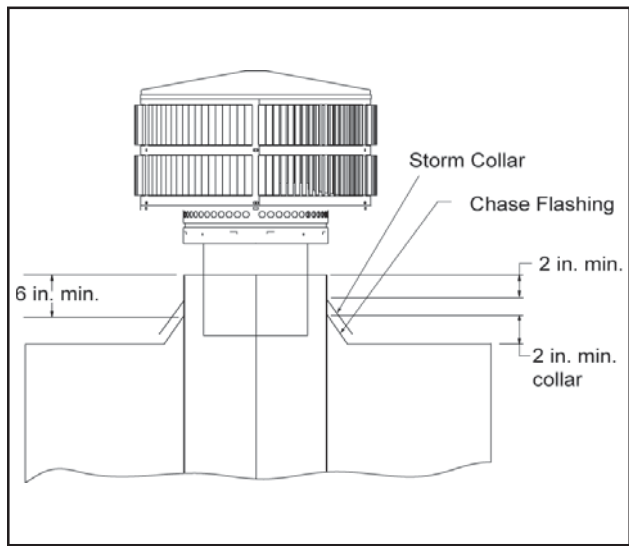

Figure 22 - Installing a TR344 Round Termination Cap
- Install the chimney sections up through the chase enclosure. When using a TR344 round termination cap, the uppermost top section of pipe must extend 6 in. above the top of the chase collar to allow installation of the storm collar and termination cap. See Figure 22.